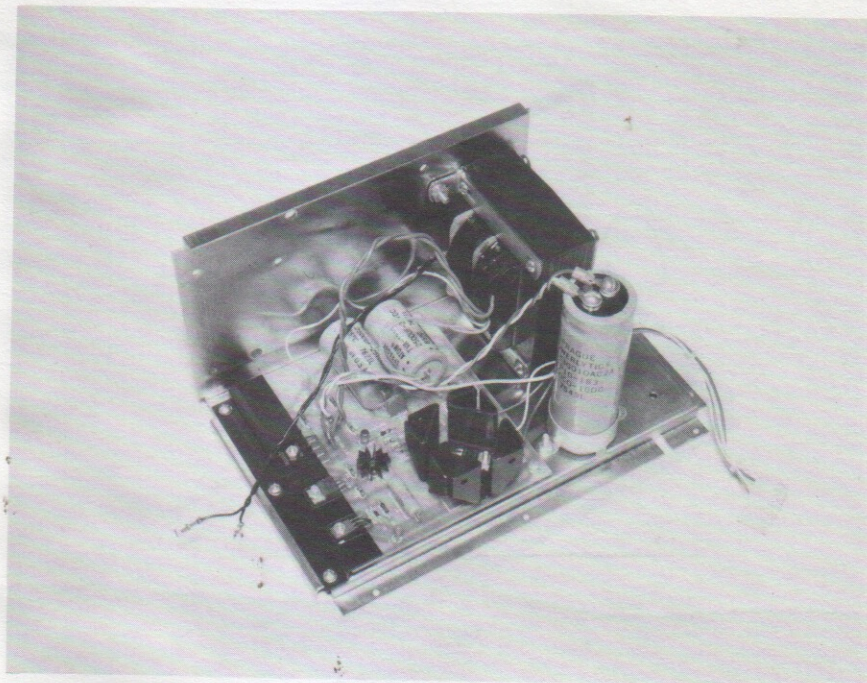

Figure 2-4. Sol-10 power supply subchassis assembly.
- (✓) Step 32. Attach heat sink on Sol-REG to power supply subchassis as shown in Drawing No. 105001. At this point use only the two side screws which you used in Step 29 to pre-thread the holes. (The middle screw will be installed later.) Place a #6 lockwasher on each screw before driving it through the sink into the subchassis. Figure 2-4 shows an assembled Sol-10 power supply subchassis.
Position ring over the two mounting holes located between FWB3 and the Sol-REG so that the clamping screw is positioned between the transformer and FWB3. Insert two 6-32 x  $\frac{1}{2}$  binder or pan head screws from bottom side of chassis through the mounting holes. Place #6 lockwasher on each screw and secure with 6-32 hex nut. (Refer to Figure 2-4.)
- (✓) Step 37. Mount C8 in its mounting ring, tighten clamping screw and route Sol-PC power cable between C8 and the transformer. (See Figure 2-4.)
- (✓) Step 44. Route black transformer leads along side wall of power supply subchassis out toward the Sol-REG heat sink. (See Figure 2-4.) Attach one lead to pin 2 of the commoning block (mounted on fan closure plate) nearest the fan. Attach other lead to pin 3 of the other commoning block.